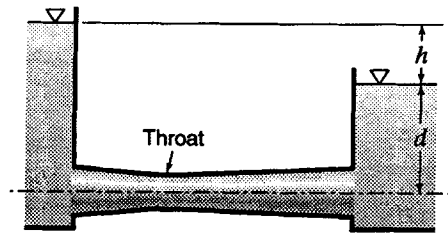

Figure P5.26
5.30 Referring to Fig. P5.26, neglect all head losses except at discharge, and assume water is flowing. If $h = 15$ ft and $d = 12$ ft, find the highest permissible water temperature in order that there be no cavitation. The throat diameter is 80 percent of the pipe diameter where it joins the downstream tank. Atmospheric pressure is 13.6 psia.